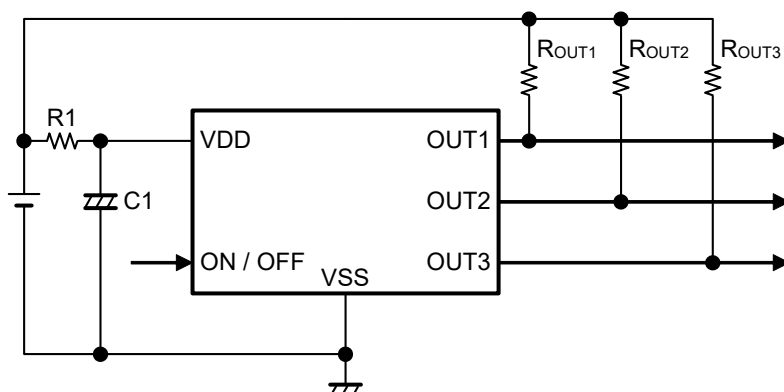

Figure 7
- In applications where a resistor is connected to the input (refer to **Figure 7** in "■ Standard Circuit"), the feed-through current which is generated when the output switches causes a voltage drop equal to feed-through current $\times$ input resistance. In this state, the feed-through current stops and its resultant voltage drop disappears, and the output switches. The feed-through current is then generated again, a voltage drop appears. Note that an oscillation may be generated for this reason.